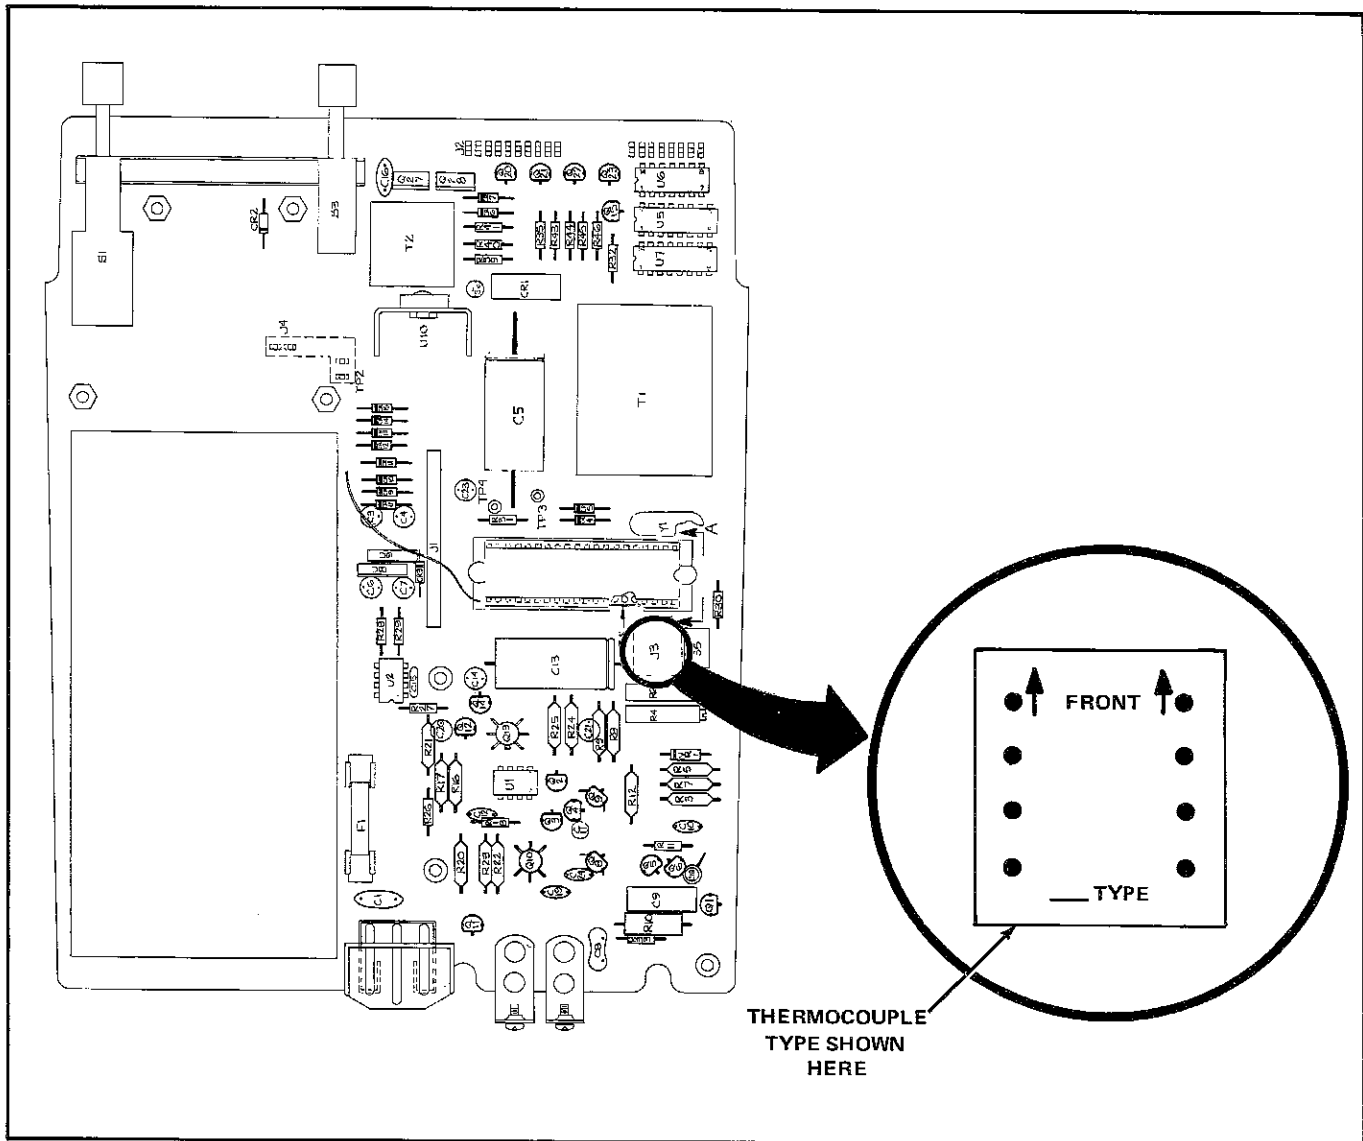

Figure 2-3. Type Select PCB, Location and Installation Details
- g. Unplug and remove the currently installed type select pcb from the position shown in Figure 2-3, and install the new pcb in its place.